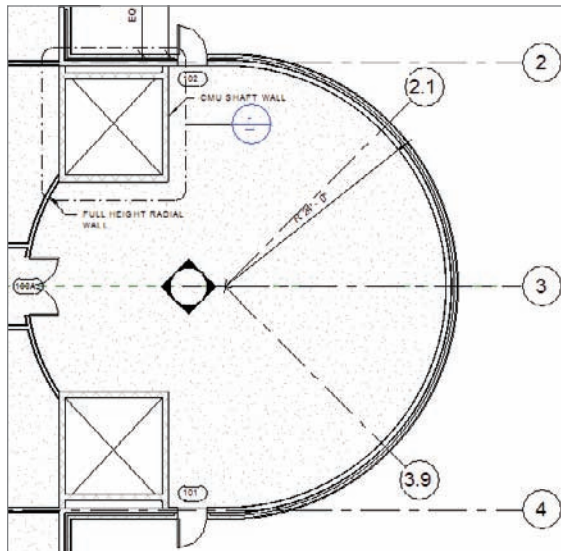

FIGURE 8.8 Adding two additional grids and renumbering them
3. Draw the line at a 45° angle until you are beyond the radial wall, as shown in Figure 8.8.
6. Renumber it to read 3.9 (see Figure 8.8).